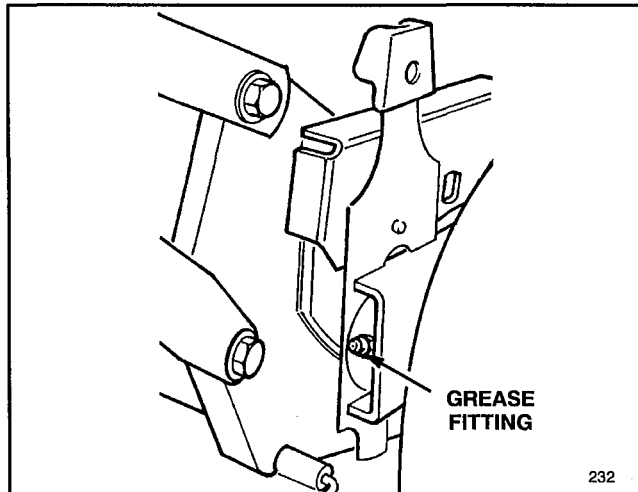

Figure 29
1. Move rear wheel height-of-cut levers to center setting. Wipe grease fittings with clean rag (Fig. 29). Install grease gun onto fitting and gently apply 2 or 3 pumps of #2 Multi-Purpose Lithium Base Grease. Excessive pressure may damage seals.